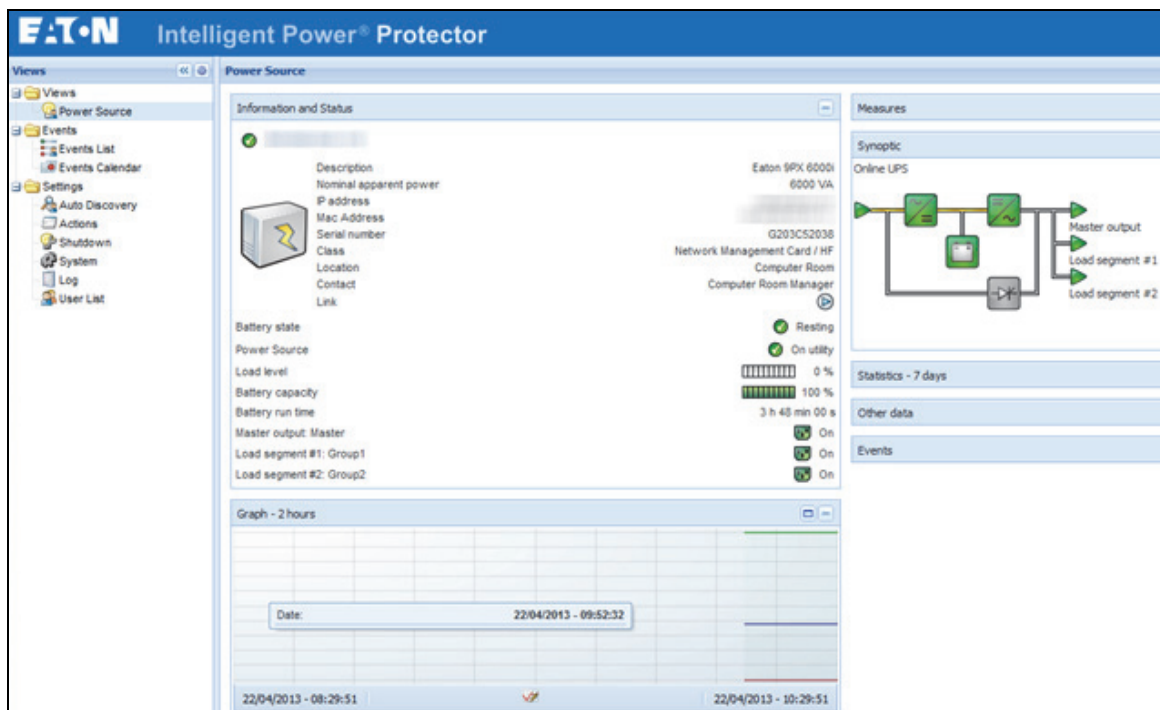

Figure 37. Power Source View
2. Click the ***Views > Power Source*** menu item. The Power Source window displays (see Figure 37):